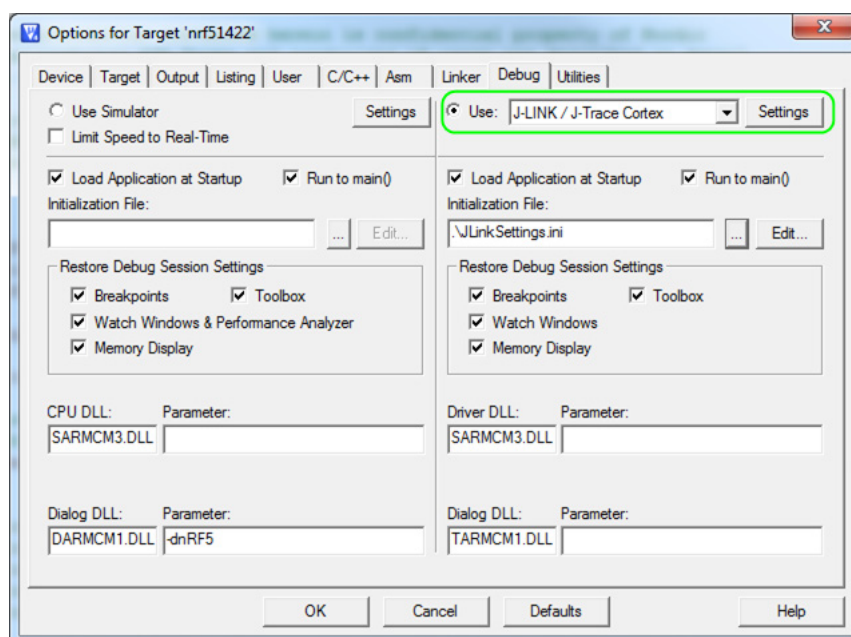

Figure 34 Selecting JLink debugger in Keil
3. Under the **Debug** tab in the Use list, select **J-LINK / J-Trace Cortex** option as shown in *Figure 34*.
4. Click **Settings** as shown in *Figure 34*. Both the SEGGER Control Panel and the Keil Target Driver Setup will open.